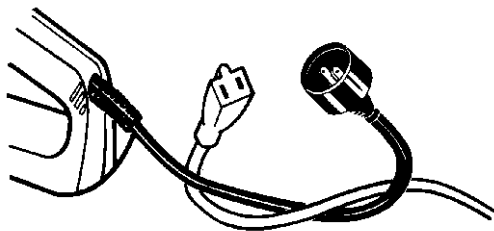

Fig.15
**NOTE:** To prevent disconnection of the extension cord, tie a loose knot before connecting the ends together (Figure 15).